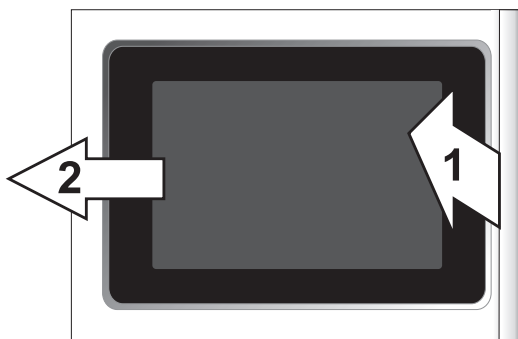
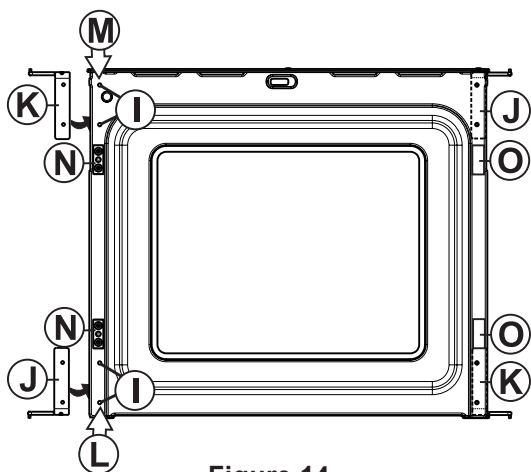

Figure 13
Figure 14
- 3.3.2. To remove the outer door assembly, lift lightly the handle side about 30°. Slide the outer door assembly out of the door hinges (Figure 13).
3.3.5. Remove the four (4) caps (See I, Figure 14) located on the left side of the inner door. Keep them for step 6.3.11.
3.3.6. Remove the two (2) plastic plugs (See O, Figure 14) located on the left side of the inner door. Keep them for step 6.3.8.
3.3.7. Remove the two (2) latch pins (Position N, Figure 13) located on the on the left side and install them on the right side (Position O, Figure 14).
3.3.8. Relocate the two (2) plastic plugs, removed on step 6.3.6, on the right of the inner door (Position N, Figure 14).
3.3.9. Unscrew the right side lower hinge and reinstall it on the left side upper position (See K, Figure 14).
3.3.10. Do the same with the hinge located on right side upper position and reinstall it on the left side lower position (see J, Figure 14).
3.4.4. Fix the threaded pin in the lower hinge (See G, Figure 14).